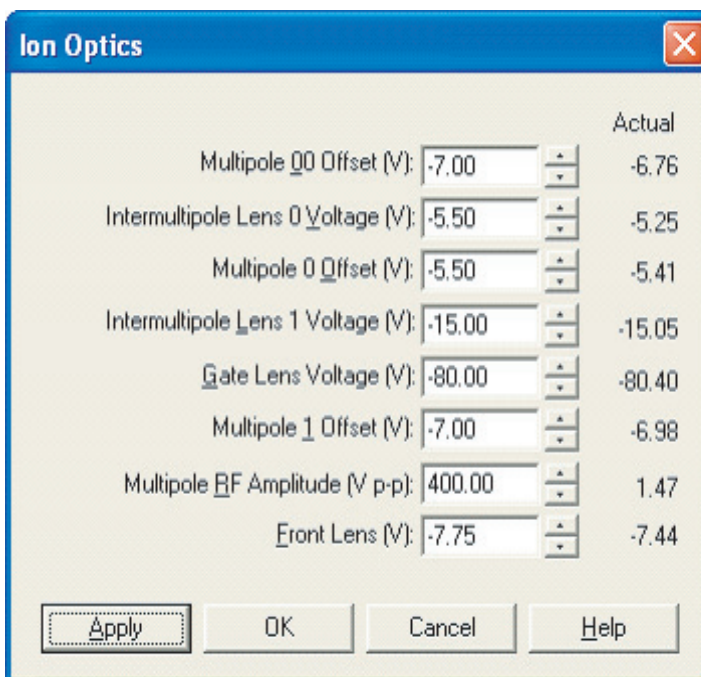

Figure 26. Ion Optics dialog box, showing examples of voltages of lenses and Intermultipoles, which are optimized by the Finnigan LXQ automatic tuning procedure
9. Click on the Ion Optics toolbar button to display the Ion Optics dialog box. The parameters in the Ion Optics dialog box are optimized automatically by the Finnigan LXQ MS detector. See Figure 26.